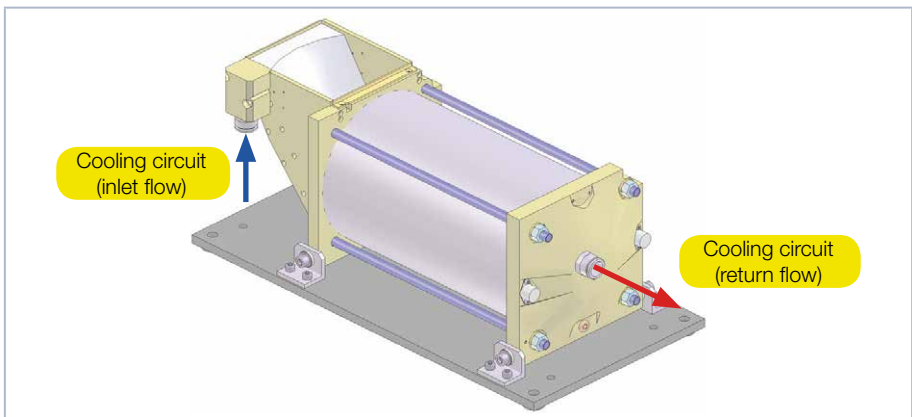

Fig. 6.2: Two ELSA push-in fittings
1. Connect the 2 ELSA push-in fittings with the on-site water supply (see Fig. 6.2 on page 14).